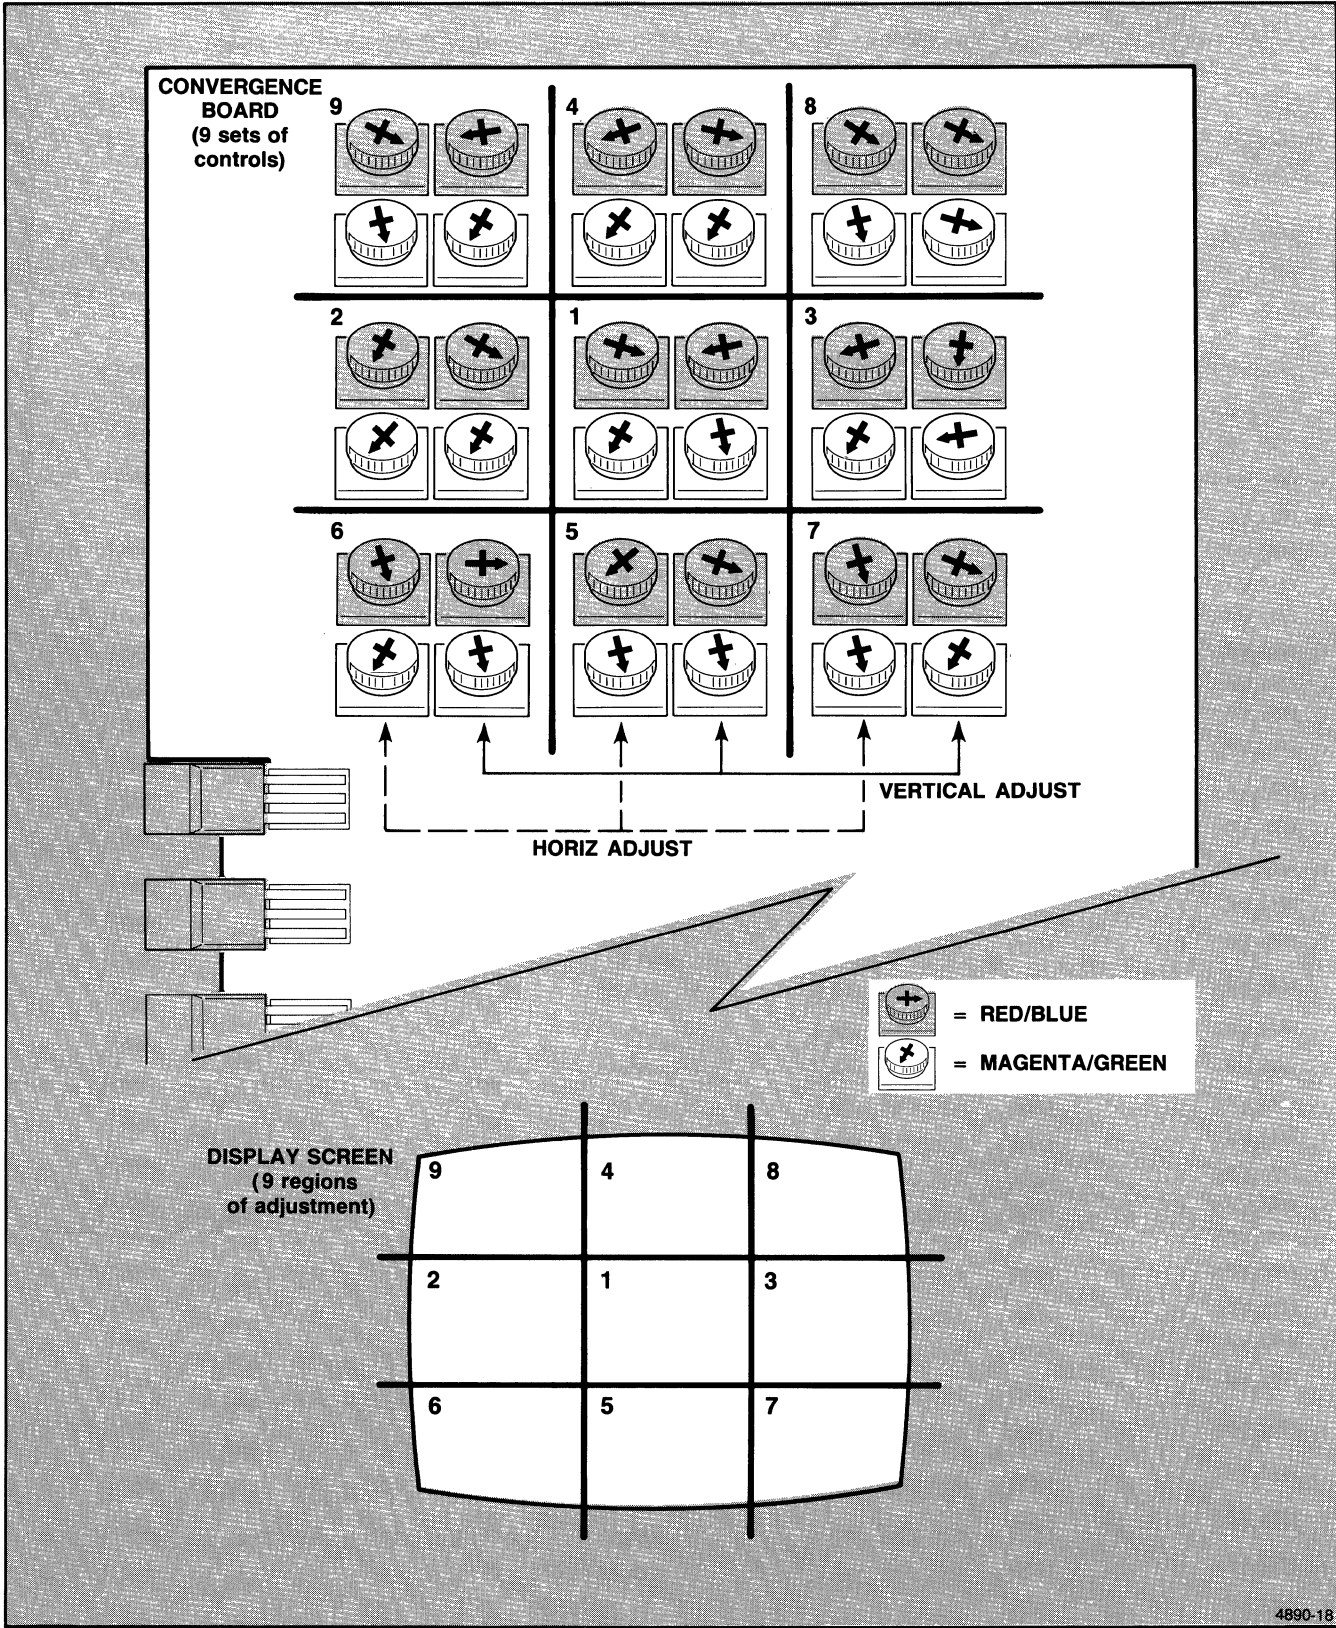

Figure 5-9. Relationship of Convergence Controls to Display Screen Locations and Adjustment Sequence.
4. Adjust – the RED/BLUE convergence control pairs in the sequence shown in Figure 5-9. Observe the corresponding part of the screen, where the adjustment should take effect.
9. Adjust – the MG/GRN convergence control pairs in the sequence shown in Figure 5-9. Observe the corresponding display screen pattern while making the adjustments.